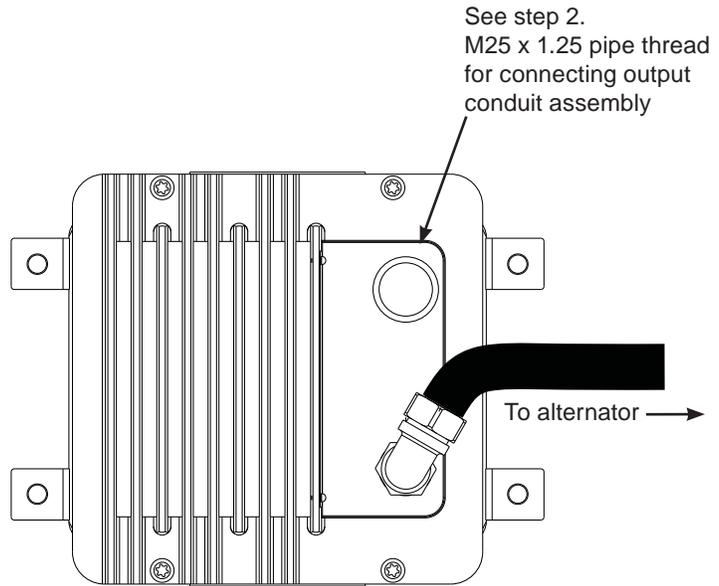

Figure 3 - A8-206 Rectifier-Regulator Cover Connections
3. Connect rectifier-regulator to alternator with wiring conduit shown in Figure 3 and 4.